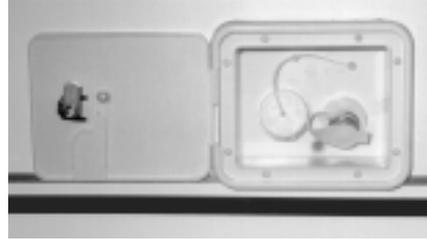

Fig. 4-1
2. A ten gallon (or larger) water tank may be permanently installed in your camper. To fill the tank, open the lid as shown. (Fig. 4-1) Insert or hold the water hose and fill to the desired capacity. The tank has an overflow outlet, but care must be taken to not overflow it.